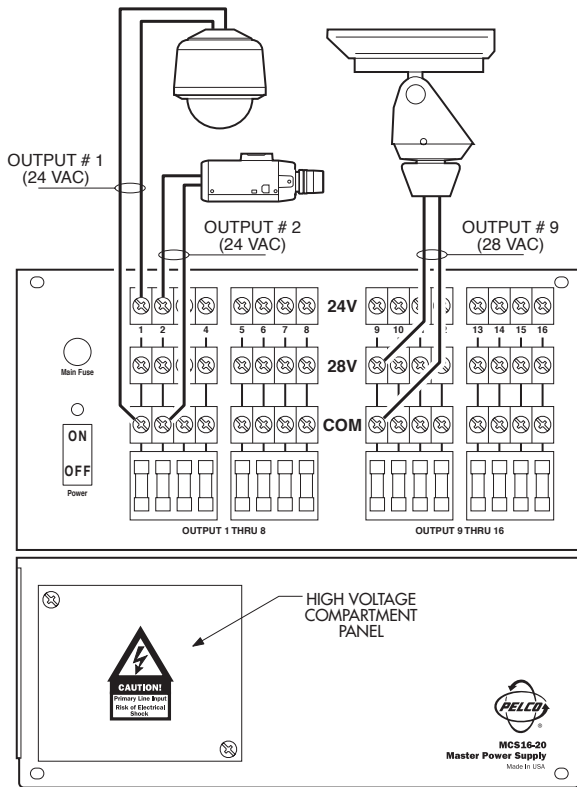
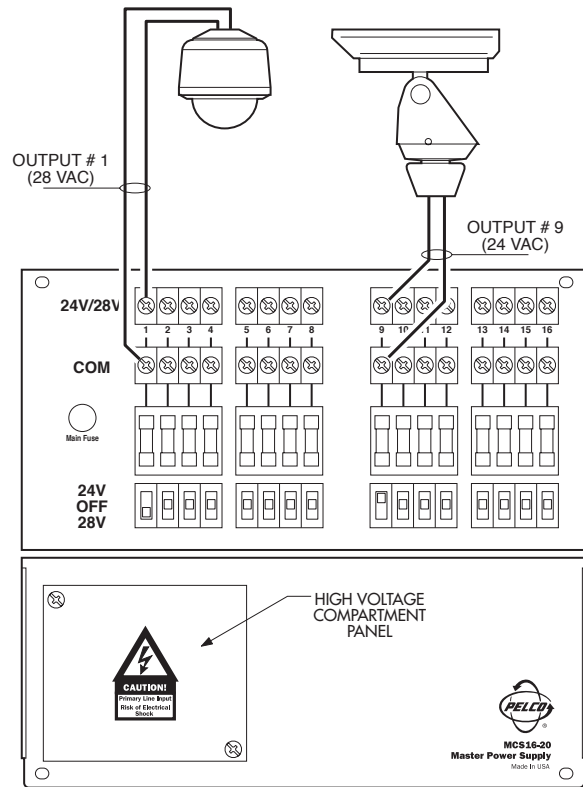

Figure 2. MCS Unit Wiring Connector Diagram
Figure 3. MCS "S" and "SB" Unit Wiring Connector Diagram
2. Refer to Figure 2 or 3. Remove the high-voltage compartment panel inside the box. Set the input voltage selector switch inside the compartment to the appropriate line voltage. The switch is set at the factory for 120 VAC line voltage.
2. Refer to Figure 2 (or Figure 3 for “S” and “SB” models) for the proper connector strip connections, and do one of the following: